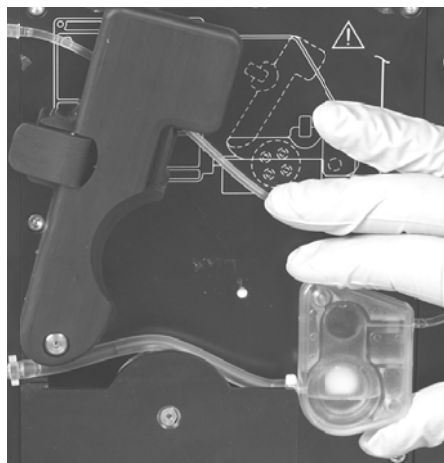

**Figure 2-8. Coolant System with Pump Mechanism Open**
5). Route the Coolant Bag inlet tubing through the pump mechanism by pulling out the locking lever located on the upper pump tubing clamp and lifting the tubing clamp up. Lay the pump tubing of the Coolant Bag across the center of the pump mechanism (*Figure 2-8*).
6). When the Coolant Bag is mounted correctly on the chill plate, the Coolant Bag inlet tubing and sensor module are aligned with the pump mechanism (*Figure 2-8*).
7). Place the Coolant Bag pump tubing (inlet tubing) of the Coolant Bag under the upper pump tubing clamp and across the rotor of the pump mechanism (*Figure 2-8*).